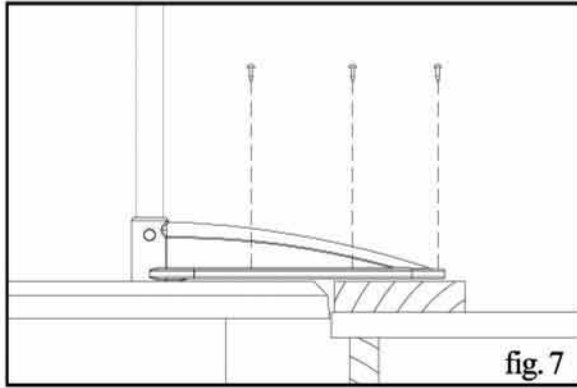

fig. 7
8. If the deck is lower than the pool, the braces should be shimmed* to attain the same level as the pool (Fig. 7). Ensure the shim is properly secured to the deck.